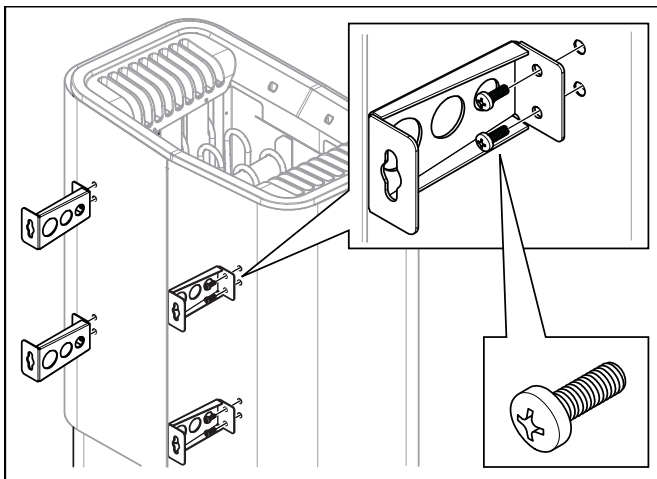

Figure 7: Attaching the brackets to the heater
1. Unscrew the first two screws on the back of the heater and screw one of the four brackets into place. Repeat the procedure until all of the brackets are fitted see Figure 7, Page 4.